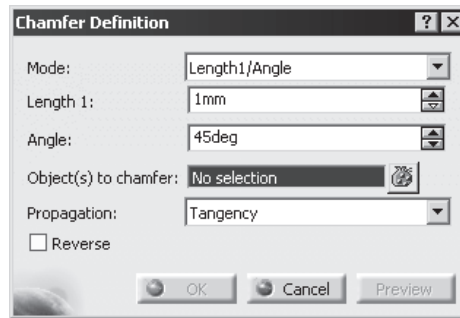

Figure 5-45 The Chamfer Definition dialog box
**Chamfer** button from the **Dress-Up Features** toolbar; the **Chamfer Definition** dialog box is displayed, as shown in Figure 5-45.